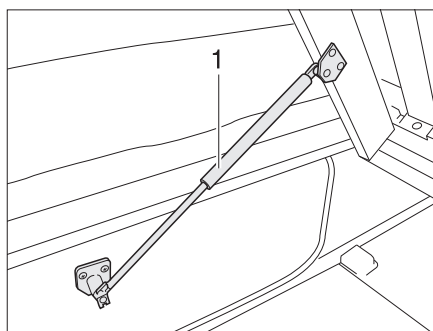

Fig. 66 Fixed bed
- Lift slatted frame. The gas-pressure springs (Bild 66,1) hold the slatted frame open.